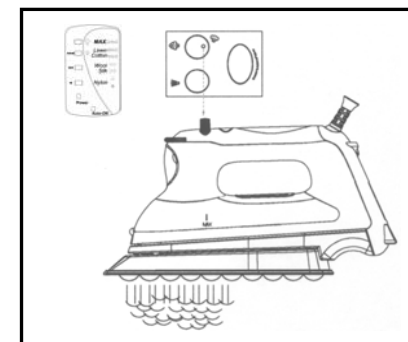

Fig. 3
3. Turn the steam button to the left to the burst of steam position. (Fig. 3)